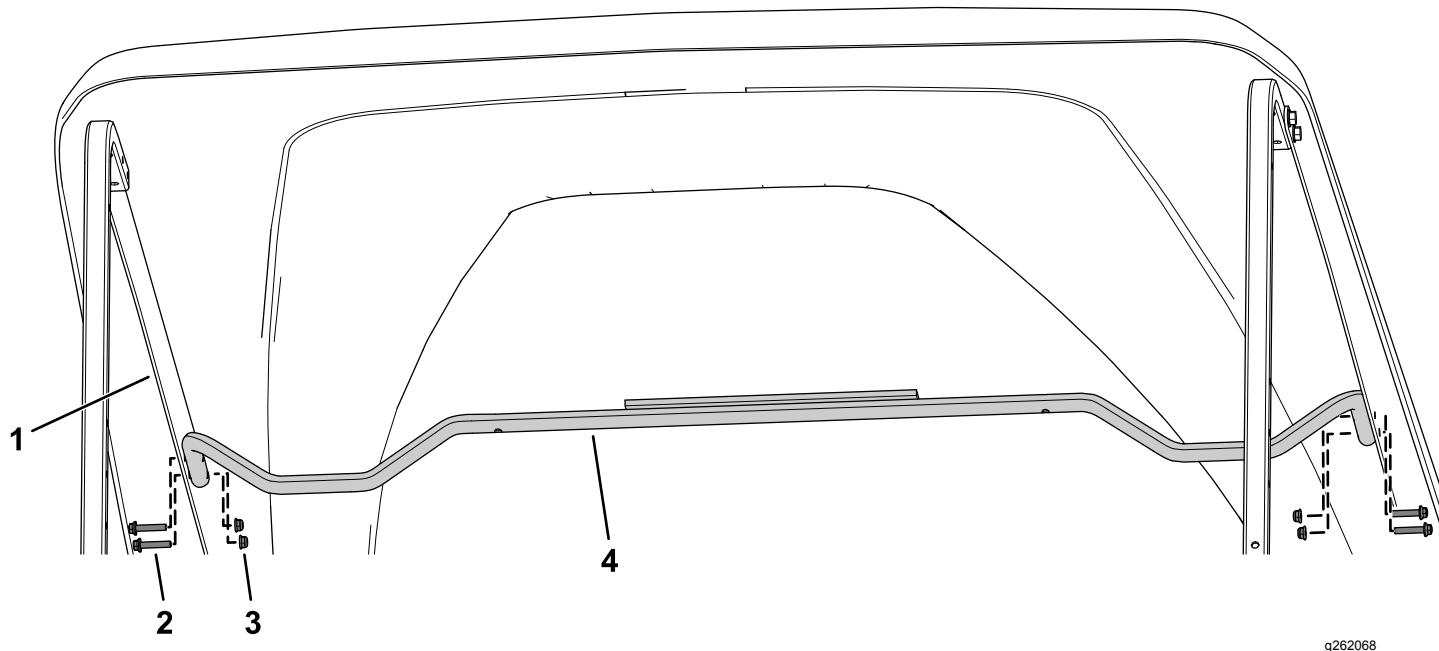

Figure 19
2. Secure the canopy support tube to the long canopy support brackets using 4 flange-head bolts (1/4 x 1-1/4 inches) and 4 locknuts (1/4 inch) as shown in Figure 19.